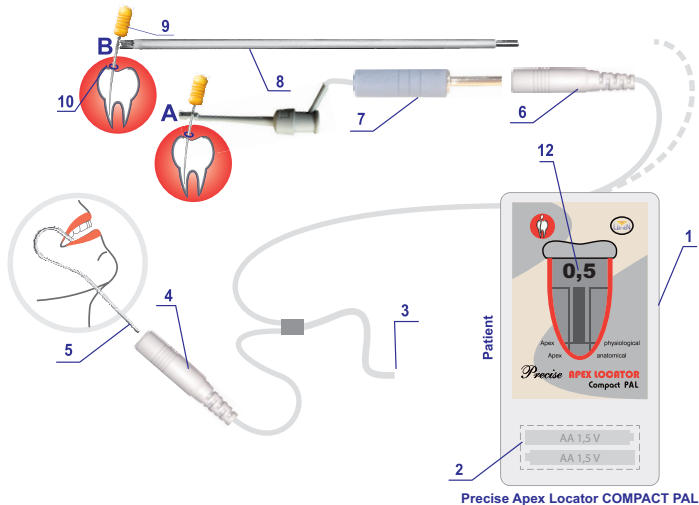

Figure 2
2. Insert up to the end the Lip Contact 5 to the socket 4. Insert up to the end either the Clip Probe 7 or the Extension Probe 8 to the socket 6. Sockets 4 and 6 are identical for using both Lip Contact and Clip Probe. Pressing the spring with the thumb attach the Clip Probe 7 perpendicularly to the file 9 *close* to the plastic head. Move the rubber marker 10 down the file. The Extension Probe 8 can be used for convenience according to version B in Fig. 2.
3. To switch the unit on connect for few seconds shortly Lip Contact 5 with metal end of Clip Probe 7 (version A of Fig.2) or with Extension Probe 8 (version B of Fig. 2). The display 12 indicates the battery condition. If the notice “LOW BATTERY” is on the display replace the battery. After few seconds the root canal model will appear on the display 12. The unit is ready for the operation.
4. Attach the Lip Contact 5 in order to get good contact with the oral mucosa (Fig. 2). The crown of tooth **must be dry**. The canal should be naturally wet.